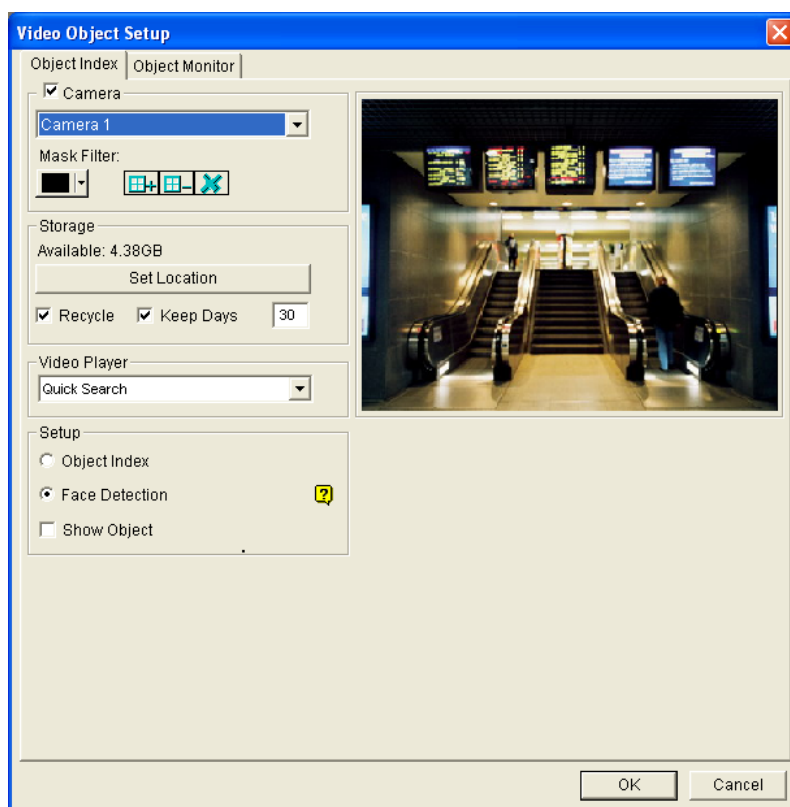

Figure 1-57 Video Object Setup for Object Index
2. Select the desired cameras for setup, and then click the **Configure** tab. The Video Object Setup dialog box (Figure 1-57) appears.
3. Click the **Configure** button to display the Video Object Setup window (see *Object Index*, Figure 1-57.)